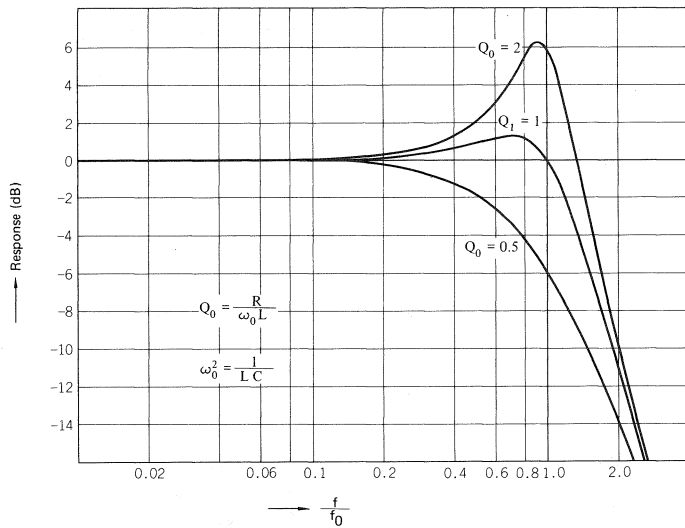

Fig. 12 Frequency characteristic variations by load capacitance
Fig. 12 plots the variation of the characteristics calculated for a desired frequency, using the equation in Step 5, for various load resistance (R) values.